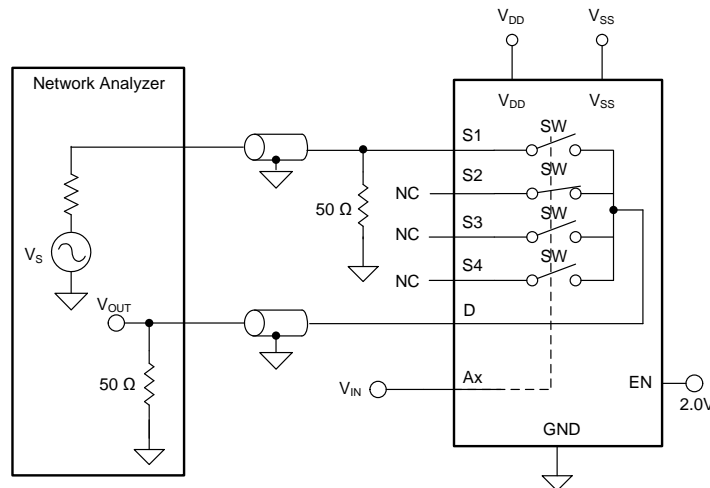

图 24. Off Isolation Measurement Setup
Off isolation is defined as the voltage at the drain pin (D) of the TMUX6104 when a 1- $V_{RMS}$  signal is applied to the source pin (Sx) of an off-channel. 图 24 shows the setup used to measure off isolation. Use 公式 2 to compute off isolation.